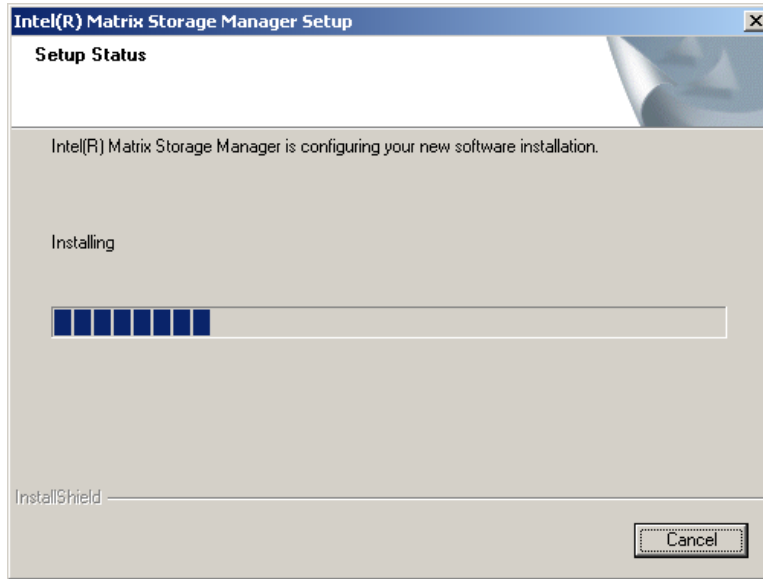

Figure 7-36: Matrix Storage Manager Setup Screen
Step 6: Figure 7-36 shows the Matrix Storage Manager software configuring the installation process.